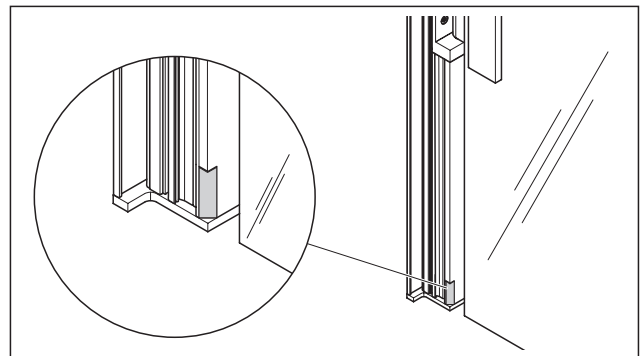

Fig. 7 A prepared cover profile of the door frame with milled groove on the secondary closing edge with the door open
4. Check if the lower cover profile has a milled groove (Fig. 7).
The lower cover profile must have a milled groove so that the drop-down seal can be triggered (Fig. 7).
3. Replace the lower cover profile of the door frame under the door hinge with the door frame's prepared cover profile (cf. Fig. 7).